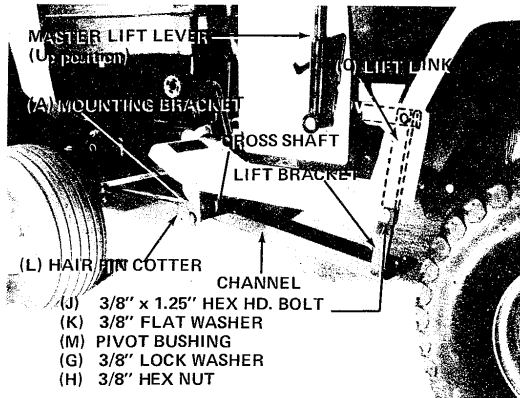

FIGURE 12
10. Connect lift link (C) to lift bracket at end of channel using one 3/8" x 1.25" hex head bolt (J) 3/8" flat washer (K), pivot bushing (M), 3/8" lock washer (G) and 3/8" hex nut (H) as shown in figure 12. See figures 6 and 12.
11. Adjust master lift lever movement with adjusting knob to prevent lever from locking in the down lock notch. See Figures 12 and 13.